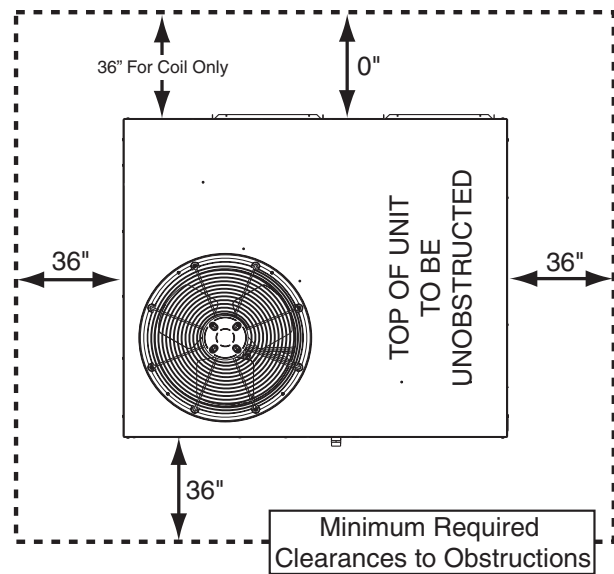

Figure 1. Clearance Requirements
- Sufficient clearance for unobstructed airflow through the outdoor coil must be maintained in order to achieve rated performance. See Figure 1 for minimum clearances to obstructions.
Q104SD units are certified as combination heating and cooling equipment for outdoor installation only. Figure 1 \(page 4\) displays the minimum clearances to obstructions for both downflow and horizontal discharge.